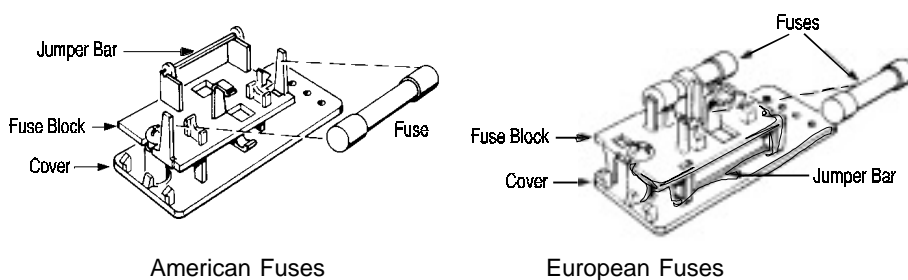

Figure 5-3: Installing Fuses
3. Replace fuse as shown in Figure 5-3.